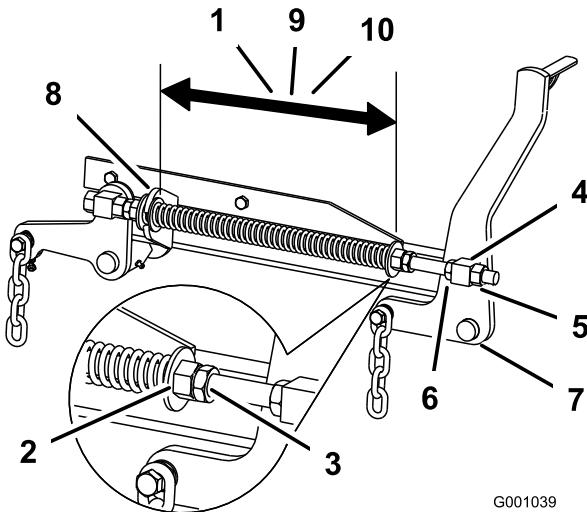

Figure 70
2. Check the distance between the two large washers, it needs to be 11-1/8 inches (28.2 cm) for 52 inch mower decks, 10-1/2 inches (26.7 cm) for 60 inch mower decks or 11-1/2 inches (29.2 cm) for 72 inch mower decks (Figure 70).
3. Adjust this distance, by loosening the spring jam nut and turning the nut in front of each spring (Figure 70). Turning the nut clockwise will shorten the spring; counter-clockwise will lengthen the spring.
4. Lock the nut into position by tightening the spring jam nut (Figure 70).